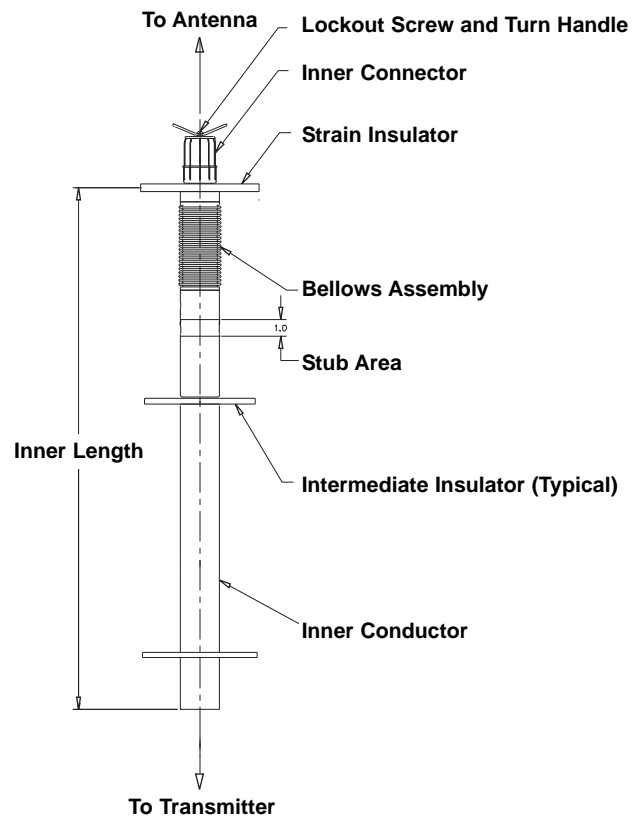

Figure 1
- 2 Subtract 1.16 inches (for inner cutback) from outer conductor measured length in Step 1. This is the required length of the inner conductor from the mid point of the "Strain Insulator" to the end of the inner conductor tube. See Figure 1.
- 1** Remove item 1 "turn handle"; remove items 2, 3, 4 and 5; remove items 6 and 7.
- 2** Carefully grasp the inner conductor tube with pipe or strap wrench taking care not to crush the tube by only clamping over the Stub area (see Figure1). Loosen item 8 with 3/4" socket wrench. The bellows assembly should rotate with the bolt. Do not try to remove the 1/2" bolt (item 8) from the bellows assembly.
- 3** Reassemble the bellows on the other end of the inner conductor tube. Take care not to gouge the inner conductor tube at the stub while using a pipe wrench. This area must be cleaned up with emery cloth if gouged. The assembly must be secured by tightening item 8 to 20 – 25 lb-ft or 240 – 300 lb-in.
- 4** Reattach bullet (item 7) in reverse order of Step 1.